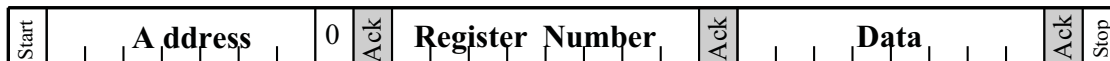

Figure 30. Format of a Register Write. Shaded Regions Denote Bus Control by TPS2358/9
**Register Write:** Figure 30 Format of a Register Write shows the format of a register write. First the master issues a start condition, followed by a seven-bit I2C address. Next the master writes a zero to signify that it wishes to conduct a write operation. Upon receiving an acknowledge from the slave, the master writes the eight-bit register number across the bus. Following a second acknowledge, the master writes the eight-bit data value for the register across the bus. Upon receiving a third acknowledge, the master issues a stop condition. This action concludes the register write.